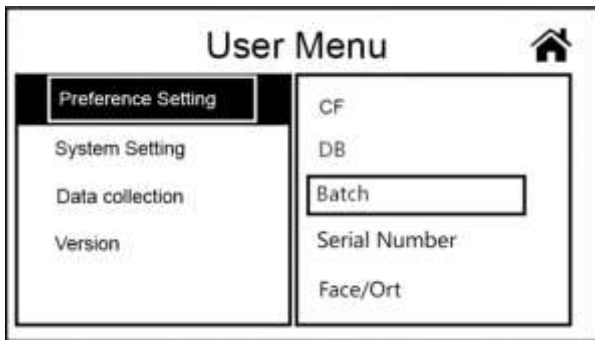
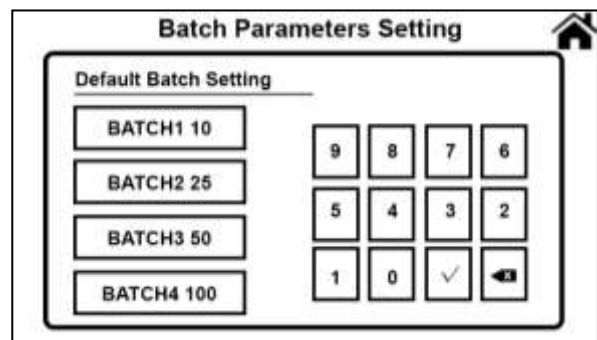

Figure 32
Figure 33
3) Touch the “Menu” key at the lower right corner of the screen to enter the “User Menu” interface, touch and select the “Preference Setting” option, as in Figure 32, touch the “Batch” option on the right side of the screen, the interface switches to the default batch setting interface, the default batch values are “10/25/50/100”, as in Figure 33.